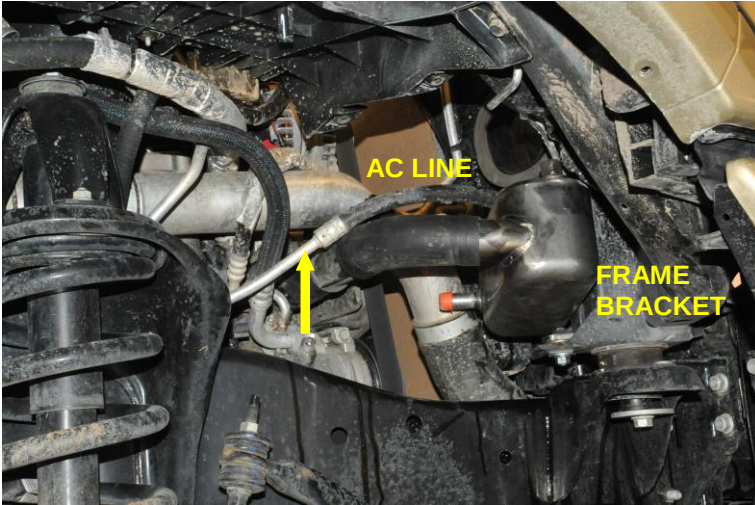

Figure 4.10 (Wheel Well View)
- AC line will have to be rotated off the frame member and rest above the cooler (Fig. 4.10)
- Lift cooler and hose assembly onto frame bracket, located at the front of the passenger side wheel well (Fig. 4.10). The welded bolt at the base of the cooler mounts through hole in frame bracket.